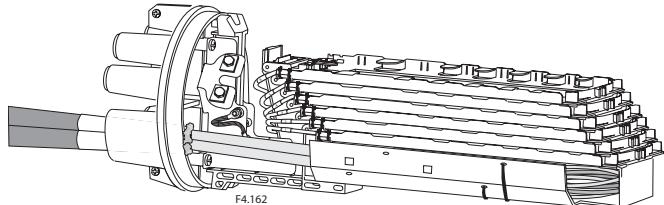

Figure 5
8. Create intertray jumpers as directed in the FOSC 400 D5 closure installation instructions to route the ribbons from the ribbon router to the upper splice organizer trays for splicing. (Figure 5)